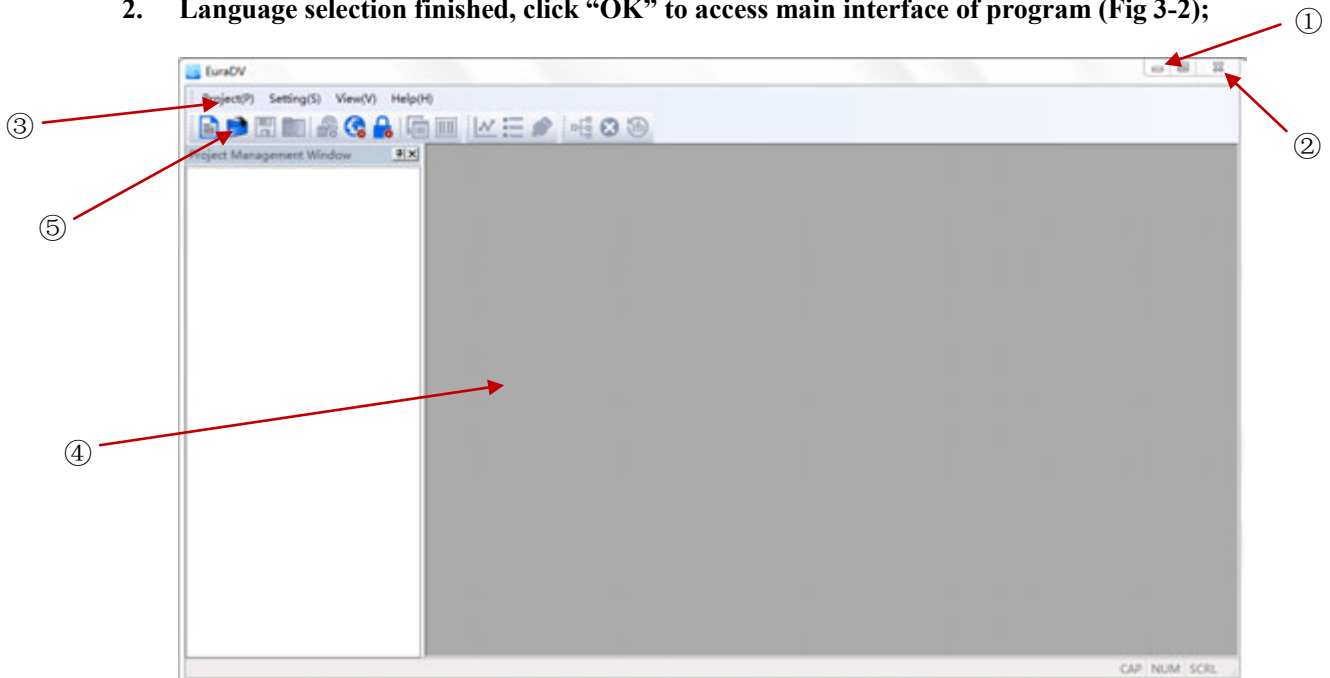

Fig 3-2 Main Interface
2. Language selection finished, click “OK” to access main interface of program (Fig 3-2);